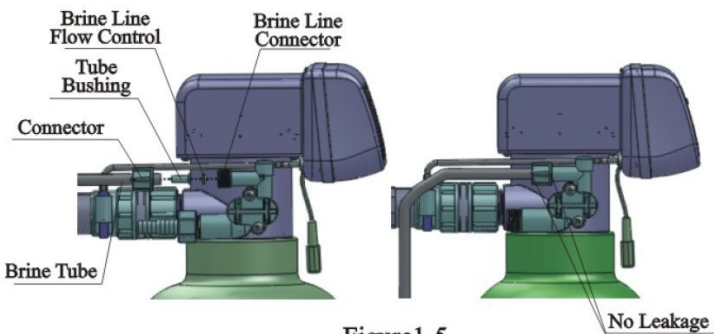

Figure1-5
- As Figure1-5 shows, slide 3/8"brine tube hose connector over end of brine tube.